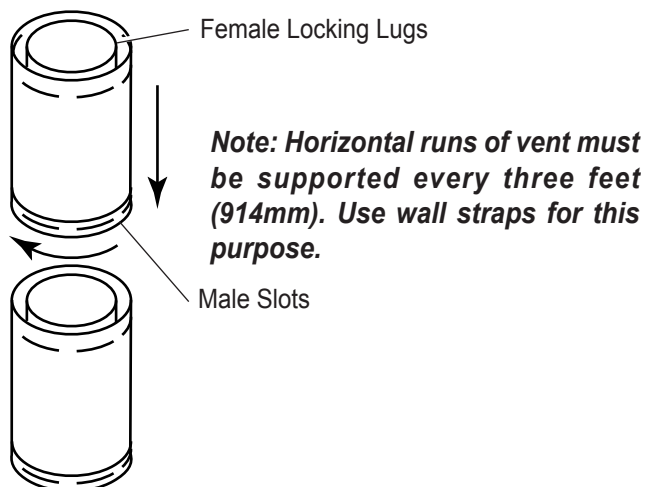

Figure 13 - Rigid Vent Pipe Connections
**Twist-lock Procedure:** The female ends of the pipes and fittings have three locking lugs (indentations). These lugs will slide straight into matching slots on the male end of adjacent pipes and fittings. Push the pipe sections together and twist one section clockwise approximately one-quarter turn until the sections are fully locked. See Figure 13.